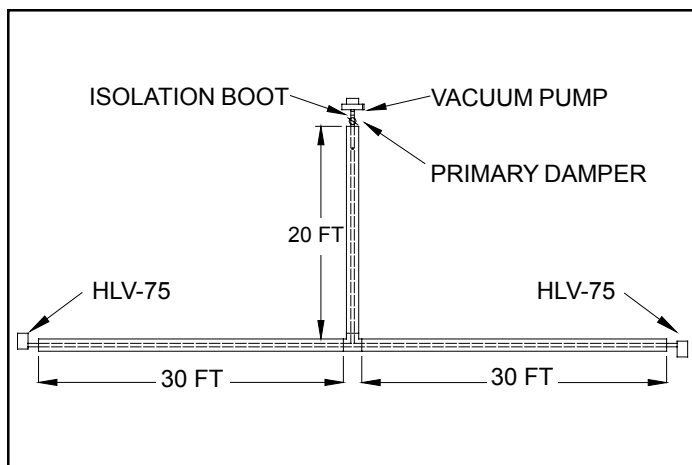

Figure 2-6
Calculated Run – Calculated run is determined by adding the total ‘single flow’ plus one half of the ‘common flow’ of Pipe. For Example, if an actual run, has 30 feet of ‘single flow’ and 20 feet of ‘common flow’, this equals 40 feet (30 ft. + one half of 20 ft.) of **Calculated Run**. Refer to figure 2-6.
Common Flow – The radiant pipe in a run between the first intersection (tee or cross) and the exhauster. ‘Common Flow’ begins at the point where two (2) or more burners share a common exchanger. Refer to figure 2-6.
Single Flow – The radiant pipe in a run from the burner box to the first intersection (tee or cross). Refer to figure 2-6.
In figure 2-6, the actual run has 30 feet of **single flow** and 20 feet of **common flow**, this equals 40 feet (30 ft. + one half of 20 ft.) of **calculated run**.